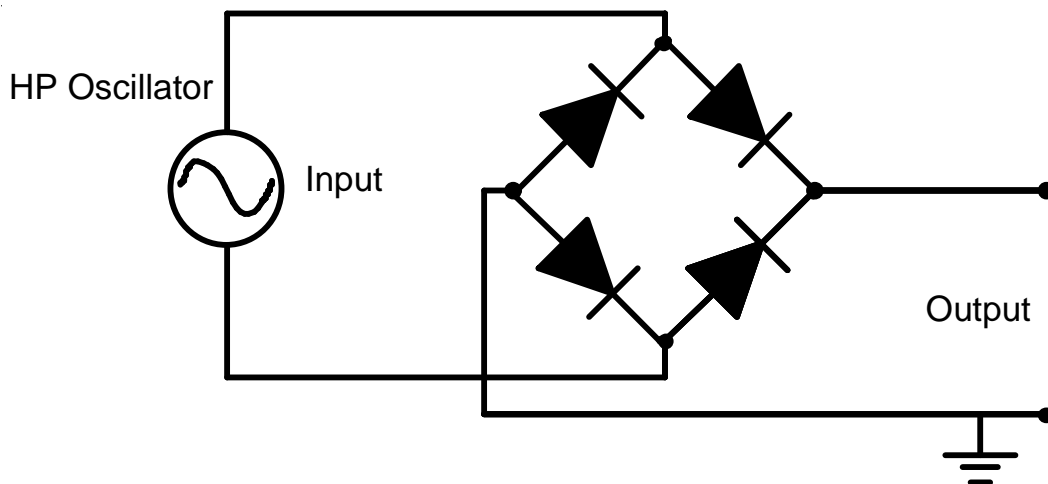

Fig. 2: Full-wave rectifying bridge circuit.
8. Obtain three 1N4001 diodes in addition to the one you already have and construct the full-wave rectifying bridge circuit in Fig. 2. Notice that, as in the previous circuit, the oscillator output must be floating relative to ground. You can not observe the input (oscillator) voltage on the oscilloscope without shorting out a portion of the circuit.